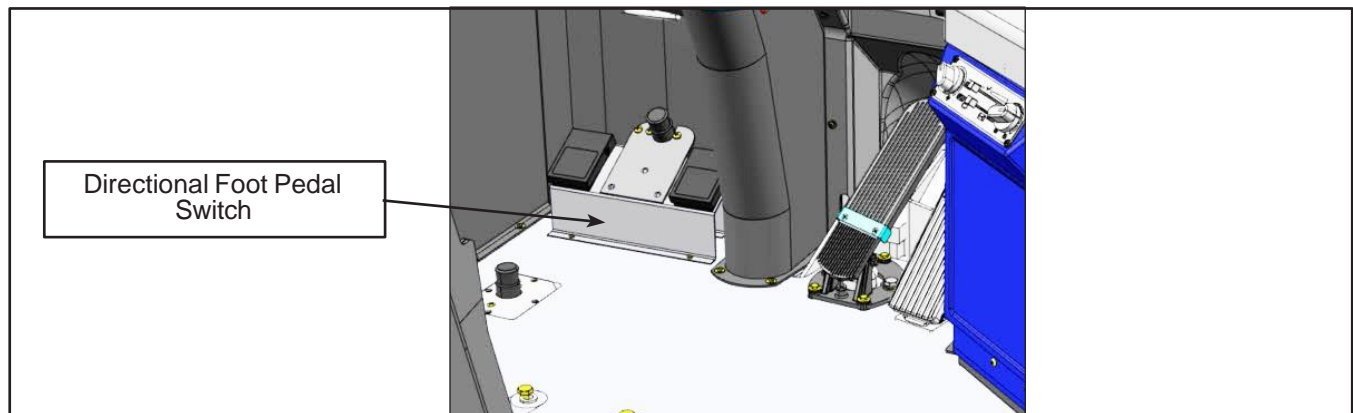

Figure 1 - Directional Foot Pedal Switch (Typical Installation)
- 1.4. Locate the Directional Foot Pedal Switch next to the steering column (Figure 1).